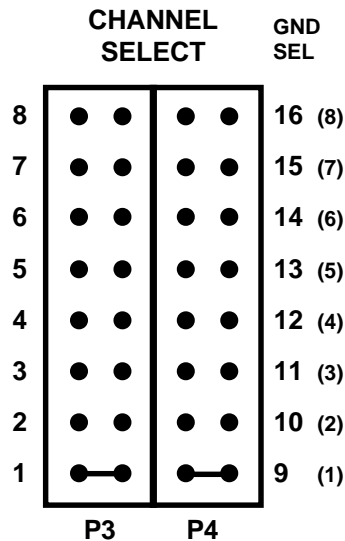

Fig. 1-2 — Channel Select Jumpers, 8-Channel A/D Boards
For Boards With 1-8 Input Channels: When you connect the TS16 to an A/D converter board with eight or fewer analog input channels, P3 is used to set the desired input channel, and P4 is used to set the corresponding ground for that channel. For example, if you place the jumper across the pins for channel 1 on P3, you should place the P4 jumper across the channel 1 ground pins (labeled (1) on the board), as shown in Figure 1-2 below. You must install both jumpers — the selected channel jumper and the corresponding ground jumper — regardless of whether you are operating in the single-ended or differential mode.